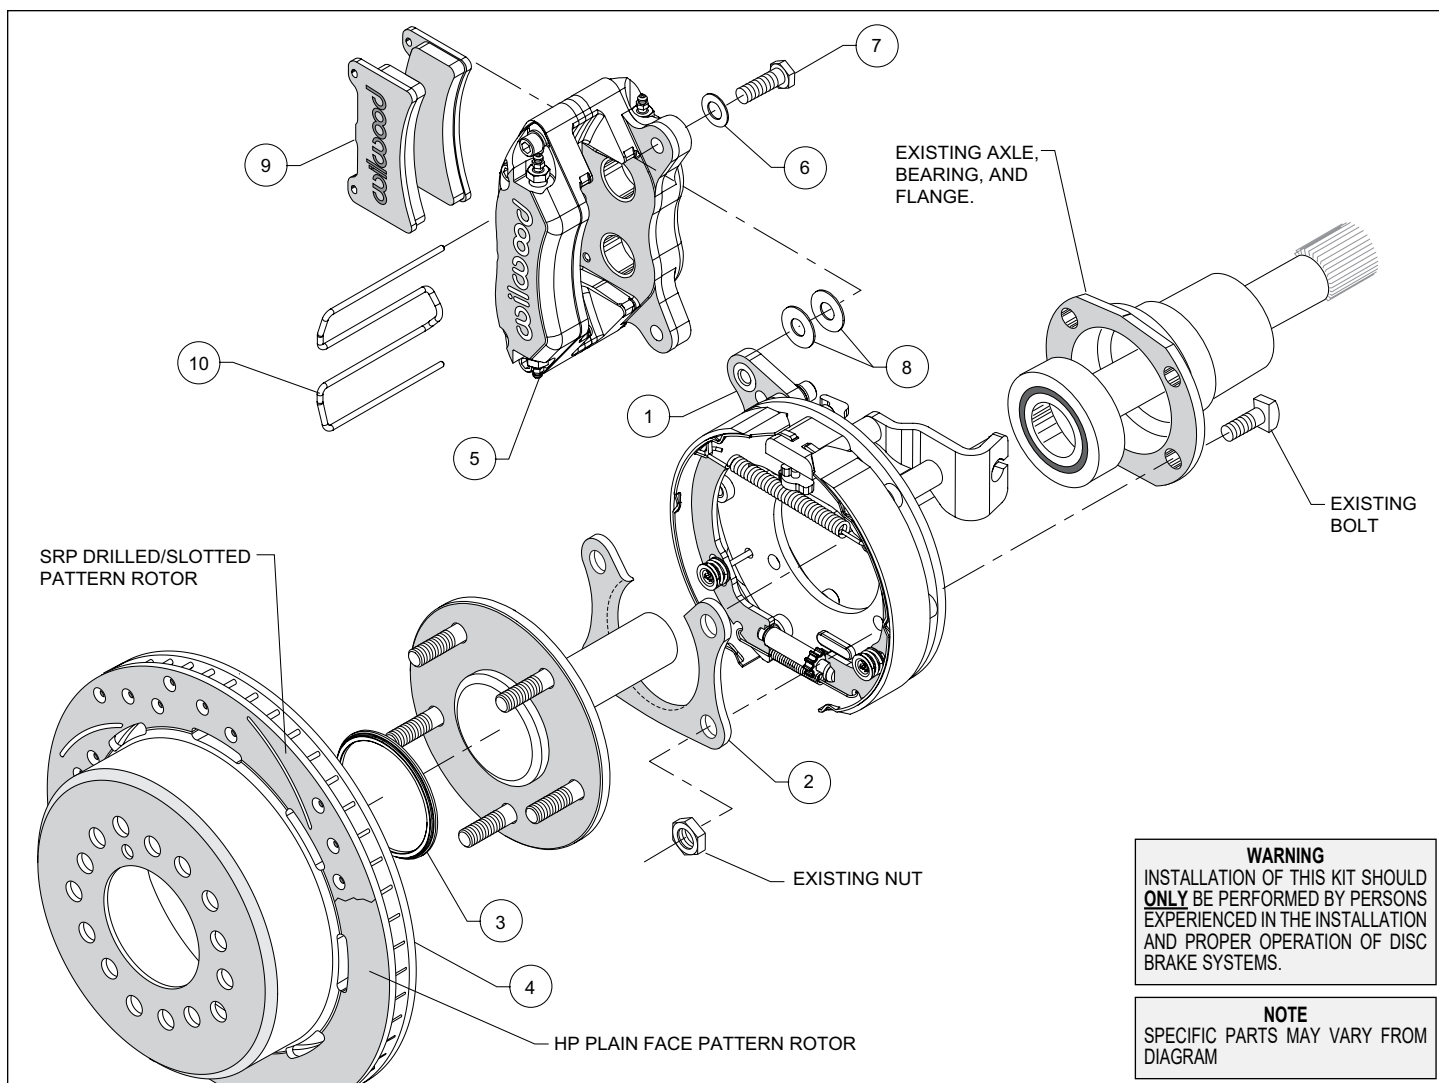
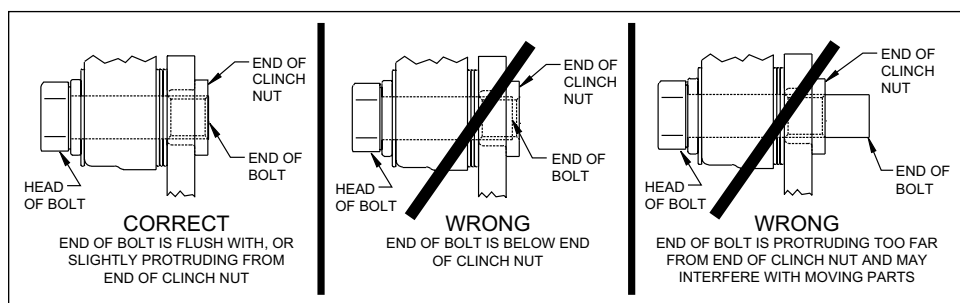

Figure 1. Typical Installation Configuration
Figure 5. Clinch Nut Engagement Diagram
NOTE: Numbers in parenthesis refer to the parts list and Figure 1 on the preceding pages.
CAUTION: All mounting bolts must fully engage clinch nuts. Be sure to check that all bolts are either flush or protruding through flanged side of clinch nut after shimming, Figure 5.
- Orient the bracket assembly (1) as shown in Figure 1 and Photo 1 and slide it onto the axle. Insert the axle and bracket into the axle housing. Ensure that the bracket assembly backing plate fits flush against the axle housing flange.
- Install the bearing retainer (2) with the opening pointing upward and the lip facing inward (toward the bearing), as shown in Figures 1 and 4, and Photo 2. Secure retainer and bracket assembly to the axle housing flange using the Original Equipment Manufacturer (OEM) bolts and nuts, Figure 1. Apply red *Loctite*® 271 to the OEM bolt threads and torque to OEM specifications.
•Slide the rotor registration adapter (3) onto the axle register on the axle flange with the smaller O.D. facing toward the rotor/hat (4), Photo 3. Align the correct hole pattern in the rotor/hat with the stud pattern on the axle flange and slide into place, Figure 1 and Photo 4. **NOTE:** The rotor/hat must fit flush against the axle flange or excessive rotor run out may result. Install three lug nuts (finger tight) to keep the rotor/hat assembly in place while continuing with the installation. **NOTE:** Some OEM and after market axles come with stud sizes larger than 0.50" diameter. Verify stud size and have a qualified machine shop drill the bolt circle of the hat/rotor to the correct stud size, if necessary.
•**NOTE:** Please reference the caution statement at the beginning of the assembly instructions. Mount the caliper (5) onto the caliper mounting bracket (1) using bolts (7) and washers (6), as shown in Figure 1. Initially place two .035" thick shims (8) on each bolt between the caliper and the bracket, Photo 5. Temporarily tighten the mounting bolts and view the rotor (4) through the top opening of the caliper. The rotor should be centered in the caliper, Photo 6. If not, adjust by adding or subtracting shims between the bracket and the caliper. Always use the same amount of shims on each of the two mounting bolts. **NOTE:** The end of each bolt must be flush with or slightly protruding from the head of the clinch nut, as shown in Figure 5. If necessary place spare shims between washer (6) and caliper mounting ear to achieve the proper clinch nut engagement. Once the caliper alignment and clinch nut engagement are correct, remove the bolts one at a time, apply red *Loctite*® 271 to bolt threads, and torque to 40 ft-lb.